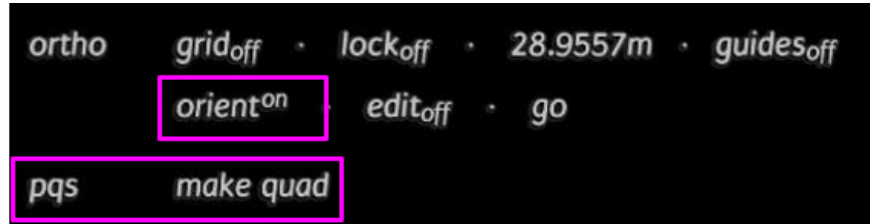

Figure 80. Turn on `orient`, then click `make quad` from the PQs menu.
3. Select `make quad` in the PQs menu (Figure 80).